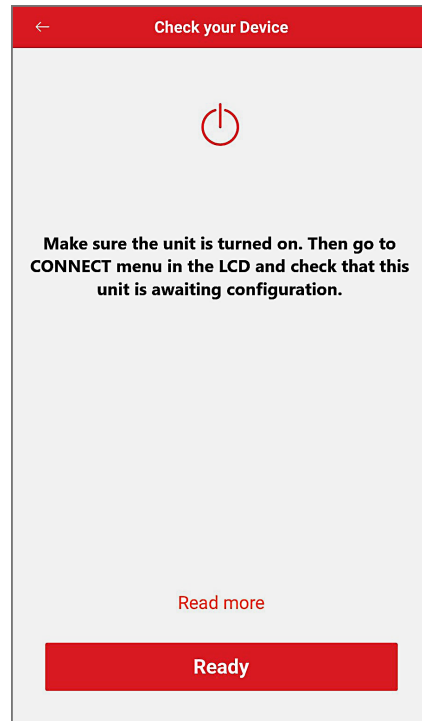

Figure 82. Check your Device
1. "Check your Device" screen will appear. Ensure to have AVIA heater powered and Wi-Fi signal available in the area, then press "Ready" button. See **Figure 82**.